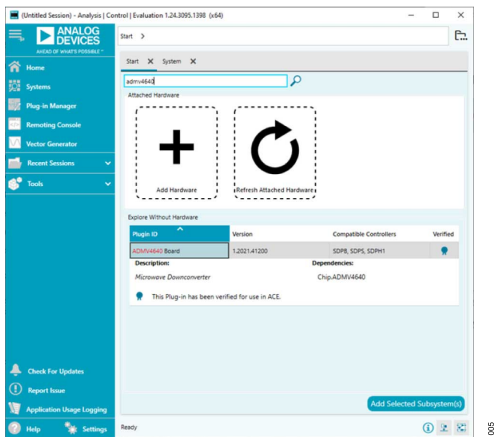

Figure 4. EVAL-ADMV4640Z Plugin Window
2. Open the ACE software and the EVAL-ADMV4640Z plugin appears (see Figure 4).